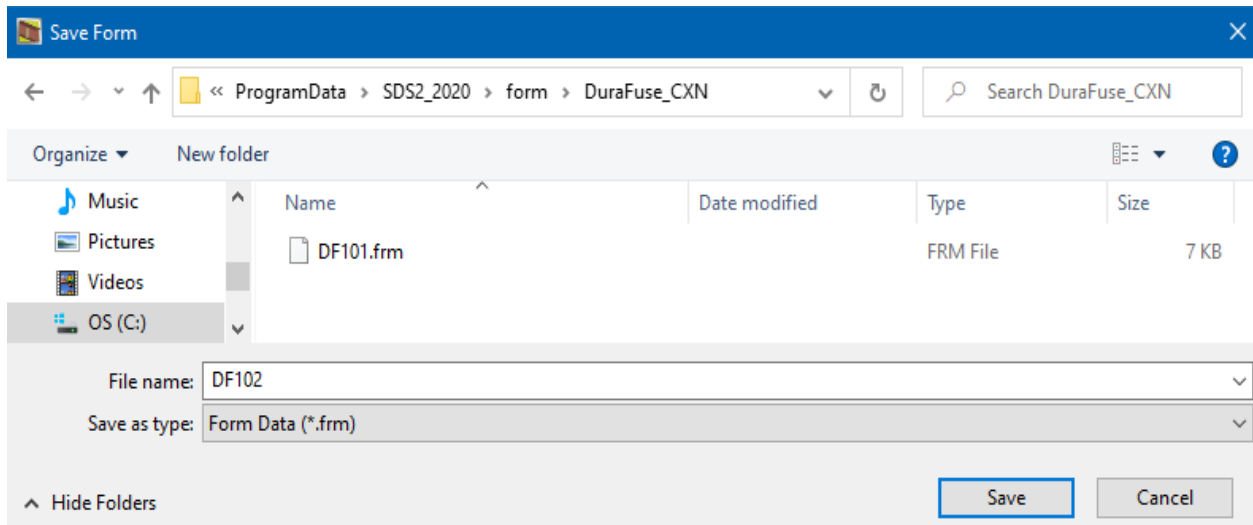

Figure 16. Save Form Dialog
3. Choose the location to save and name it after the connection ID, see Figure 16.